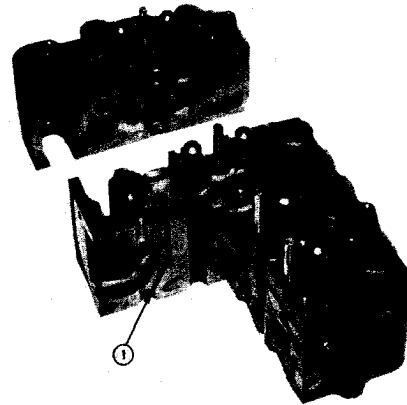

Fig. 2-5, (N10266). Rocker lever oiling hole
6. Check lubricating oil passage (1, Fig. 2-5) to be sure it is open.